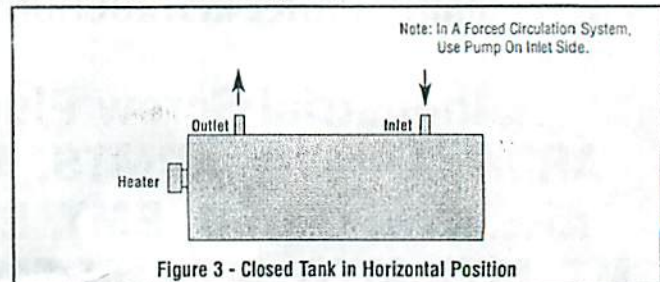

Figure 3 - Closed Tank in Horizontal Position
A. Horizontal Position (Figure 3)